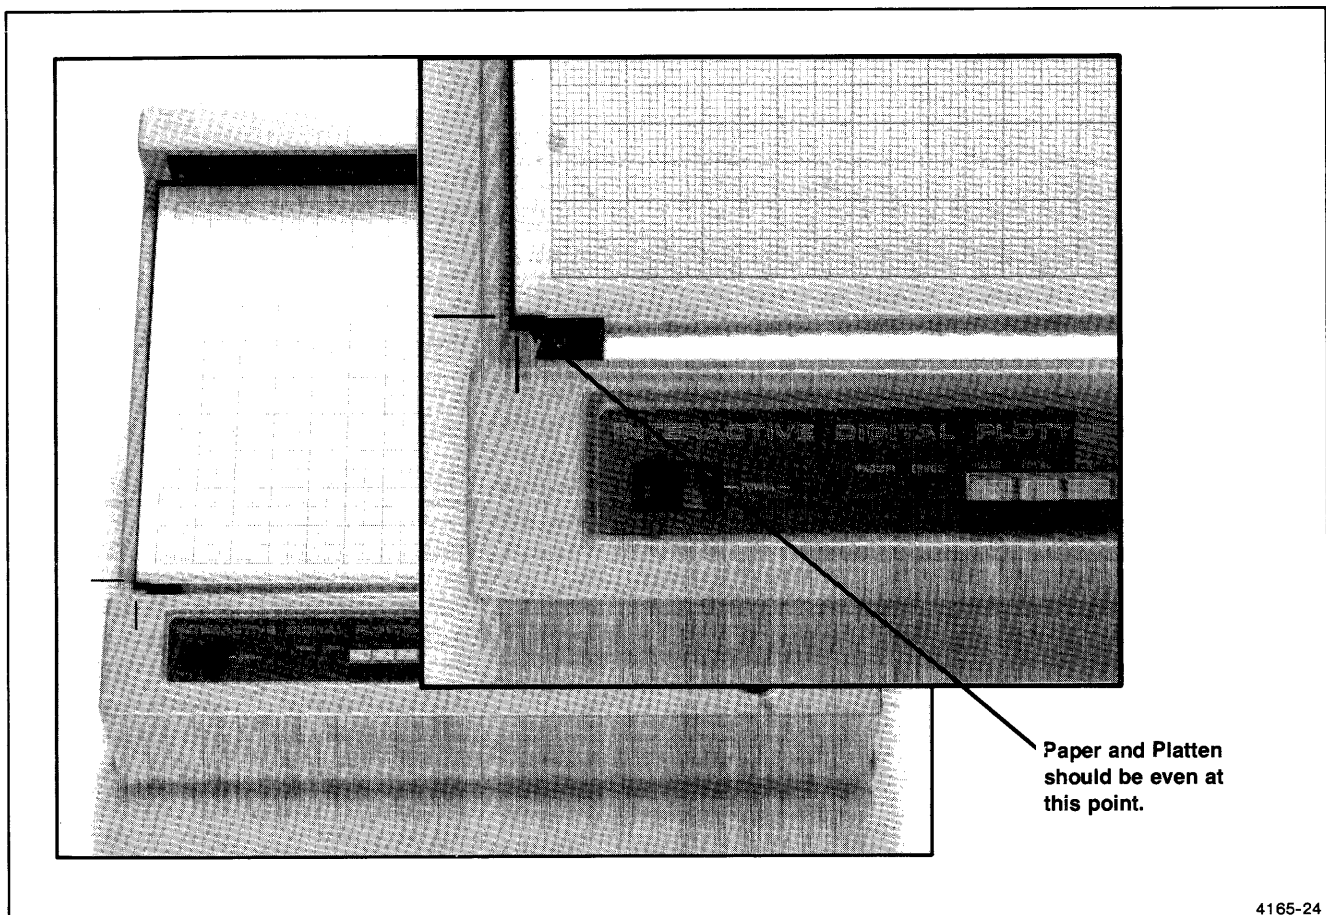

Figure 2-25. Paper Position on the Platen.
4. Position a new piece of paper on the platen (plotting surface). The left edge of the paper, regardless of its size, should be positioned even with the left edge of the platen. The bottom edge of the paper should lie evenly along the paper guide (see Figure 2-25).